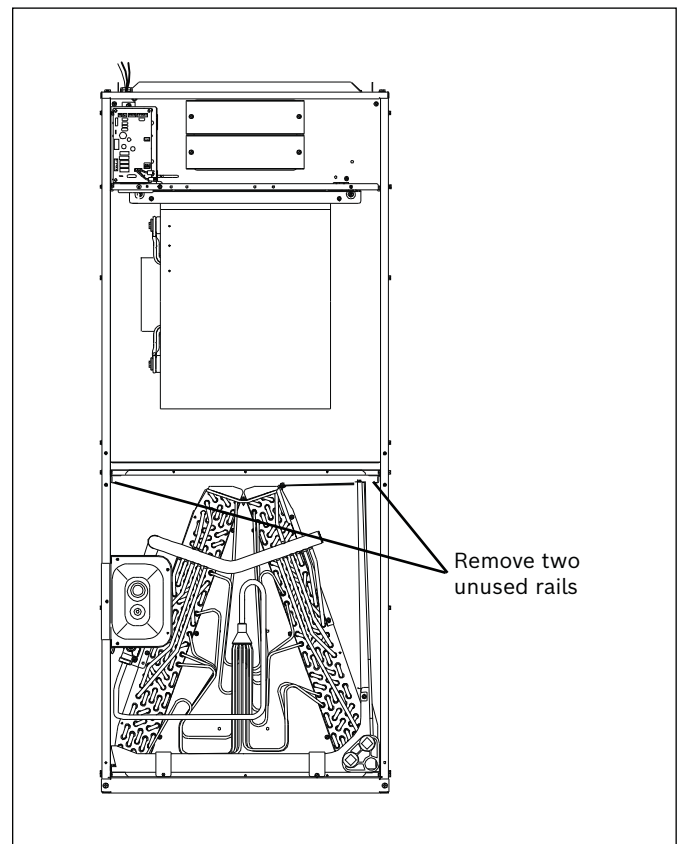

Figure 13
- ▶ There are two pairs of coil rails in the air handler for upflow and downflow application. If the air handler is installed in an unconditioned space, the two unused coil rails (Fig. 13) should be removed to minimize air handler surface sweating. The coil rails can be easily removed by unscrewing the 6 mounting screws from both sides of the cabinet.